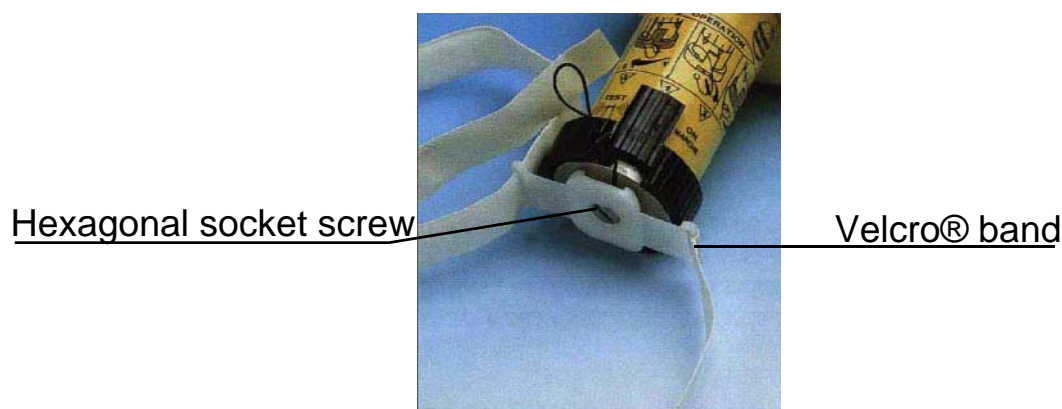

Figure 23 - Velcro® band
- Unscrew the hexagonal socket screw located at the base of the RESCUER SART and remove the Velcro® band (See Figure 23 - Velcro® band).